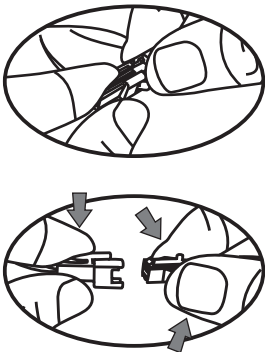

Fig. 32
- (C) Pull out the battery gently and remove it completely by detaching the connecting pins, Fig. 32, 33.